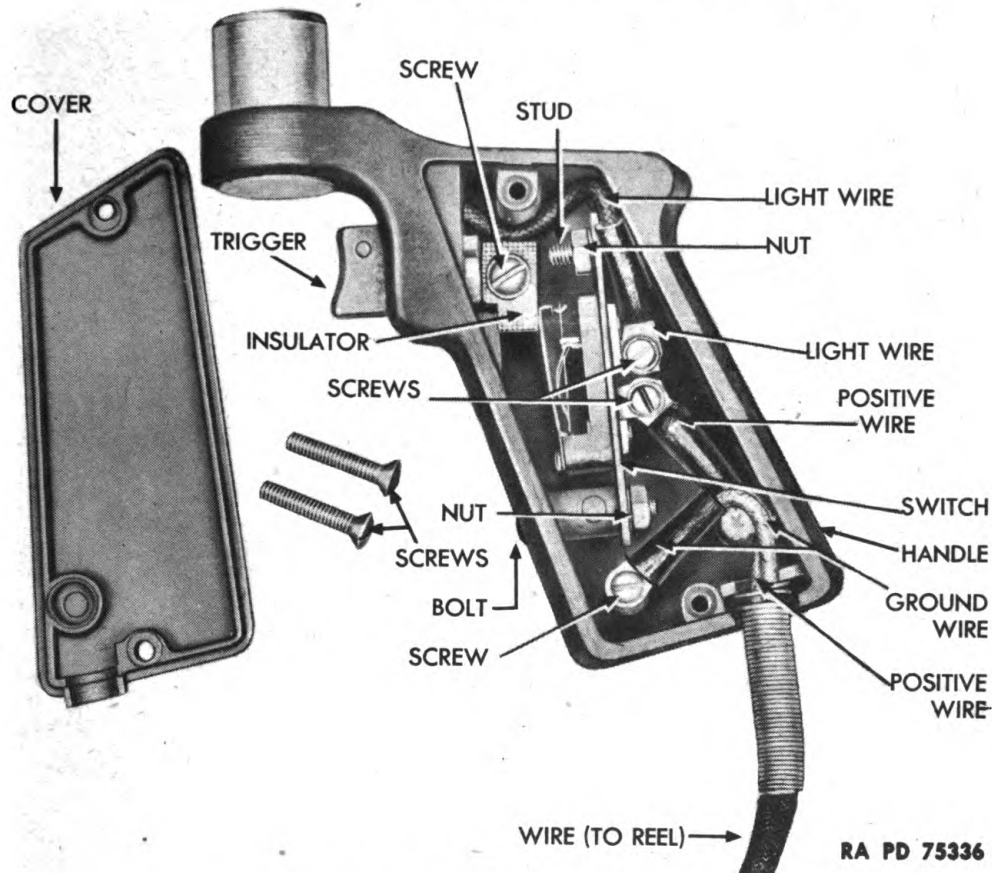

Figure 70 — Signal Switch Assembly — Cover Removed
a. **Disassembly** (figs. 70 and 71). Remove two screws that hold cover to handle, and lift off cover. Remove screws and lock washers that hold ground and positive wires to handle, and remove wires. Remove screw and lock washer that holds light wire to handle, and remove wire. Remove screw and lock washer that holds insulator, and remove insulator. Lift trigger and spring out of handle. Remove nut and lock washer from bolt which holds switch, and remove bolt from handle. Remove nut and lock washer from stud which holds switch, and remove switch.
c. **Assembly** (figs. 70 and 71). Install switch on stud, and fasten